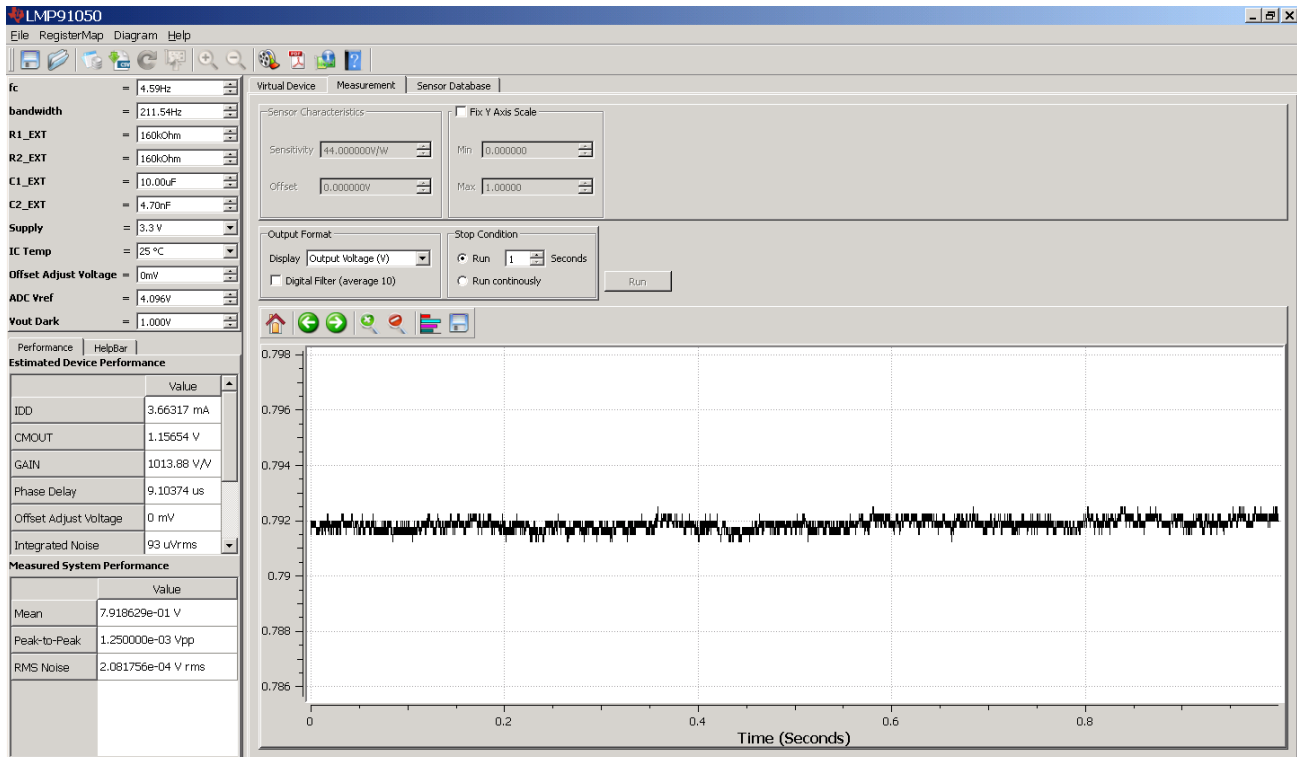

Figure 8 - Results for DC Reading
2. Under the **“Output Format”** field, select Display as **“Output Voltage (V)”**
4. Click on the **“Run”** button to view the output voltage results. A reading should be plotted as seen in Figure 8 . Output voltage will vary depending on input voltage across IN\_DUT and CMOUT\_DUT. If J2 is shorted, IN\_DUT = CMOUT\_DUT, output voltage should be about 1V. **Note: Board is provided with jumper J2 open. Use provided jumper to short IN to CMOUT for easy evaluation.**